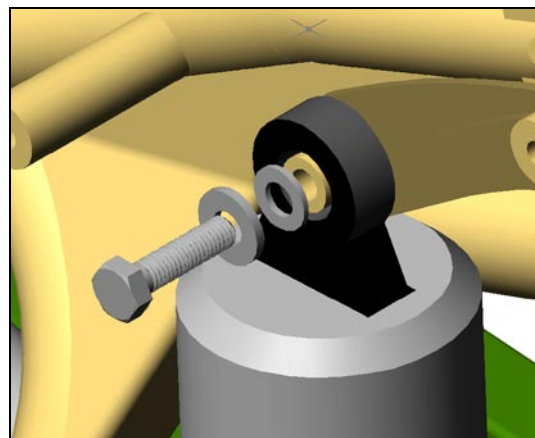

Figure 26
- Upper Hardware (outboard shocks). Figure 26